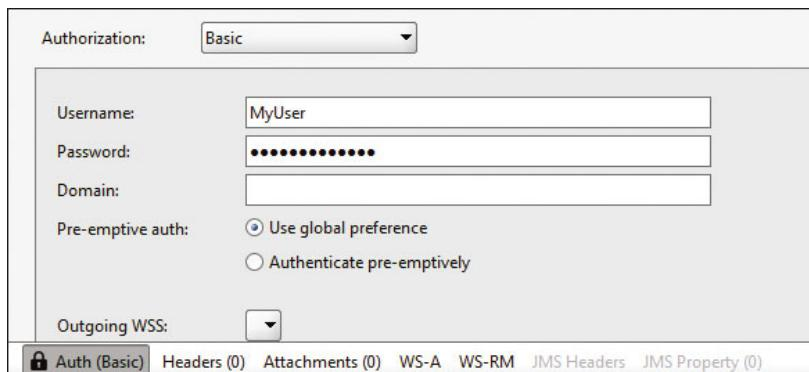

Figure 2.40 Specifying Username and Password to Enable the SOAP Client to Send Messages to SAP Cloud Platform Integration
- Now you need to enable the SOAP client to authenticate itself against SAP Cloud Platform Integration based on your user credentials. In SoapUI, click **Auth (Basic)**, and enter your credentials in the next screen (see Figure 2.40). Refer also to Figure 2.16 for the assignment of the corresponding role `ESBMessaging.send` to the user associated with the sending SOAP client.